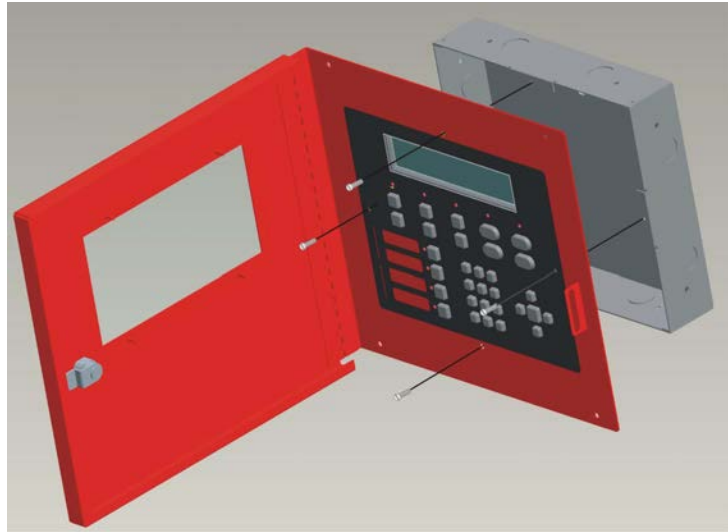

Figure 4.25 Attaching Annunciator / Door Assembly to Backbox
- Attach the annunciator and door assembly to back box as shown in Figure 4.25 using the supplied screws.